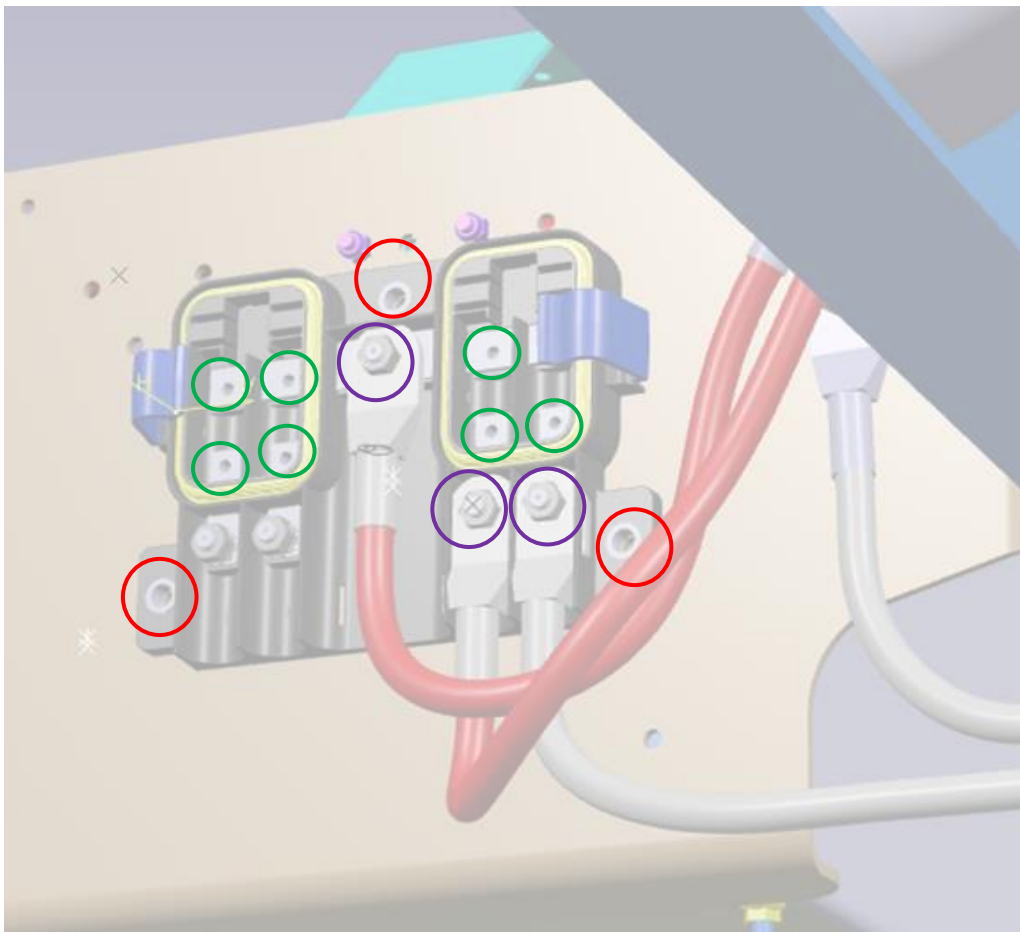

Figure 6
4. Torque connections on new BPDA per Figure 6